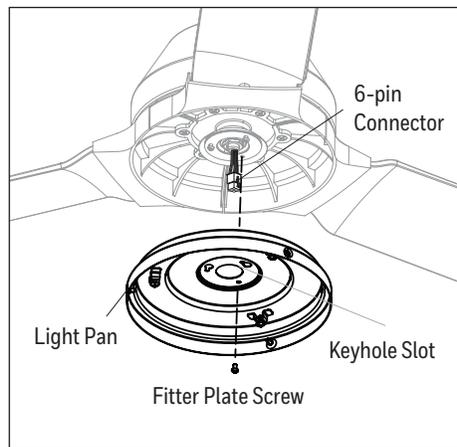

Figure 5.5
5. Remove one of the three fitter plate screws preassembled to the fitter plate and loosen the other two but do not remove. Feed the 6-pin connector through the center hole in the light pan. Align the keyhole slots in the light pan with the loosened screws in the fitter plate. Turn light pan clockwise and replace the previously removed fitter plate screw. Tighten all screws (Figure 5.5).